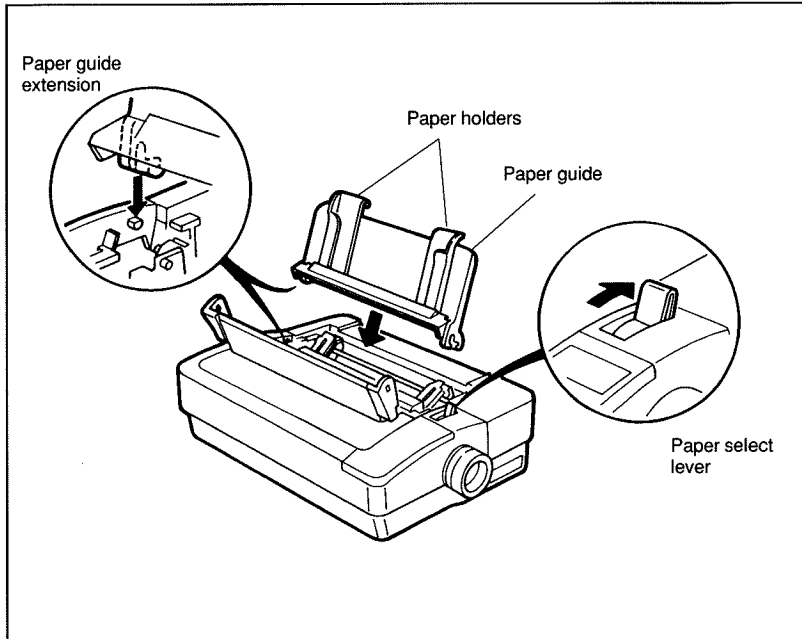

Figure 3-2. Installing the paper guide.
The paper select lever (Figure 3-2 on page 28) sets the GSX-190 for either continuous or single sheet paper. If you look closely at the lever, you'll see what looks like a paper stack and single sheet of paper embossed next to the lever. The lever is moved forward (to the paper stack) for continuous paper and back (to the single sheet) for single sheets.
2. Install the paper guide in the upright position used for inserting paper. See Figure 3-2. To do this, hold the paper guide so that the two corner extensions point downward into the printer. Slide the guide pins onto the L-shaped channel slot. At the same time, position the paper guide forward slightly allowing the pins to slip into the vertical channel. When installed correctly, the paper guide sits in an upright position.